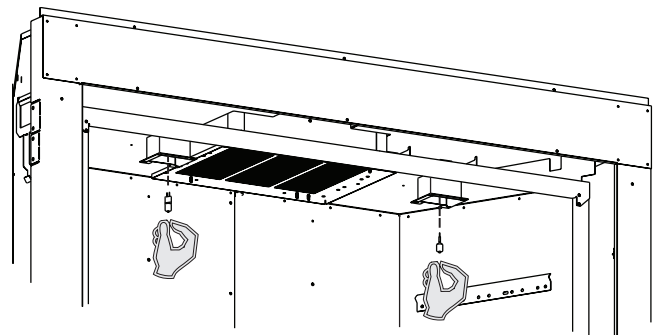

Figure 106
2. Remove old light bulb and replace with a new one. **See Figure 106.**